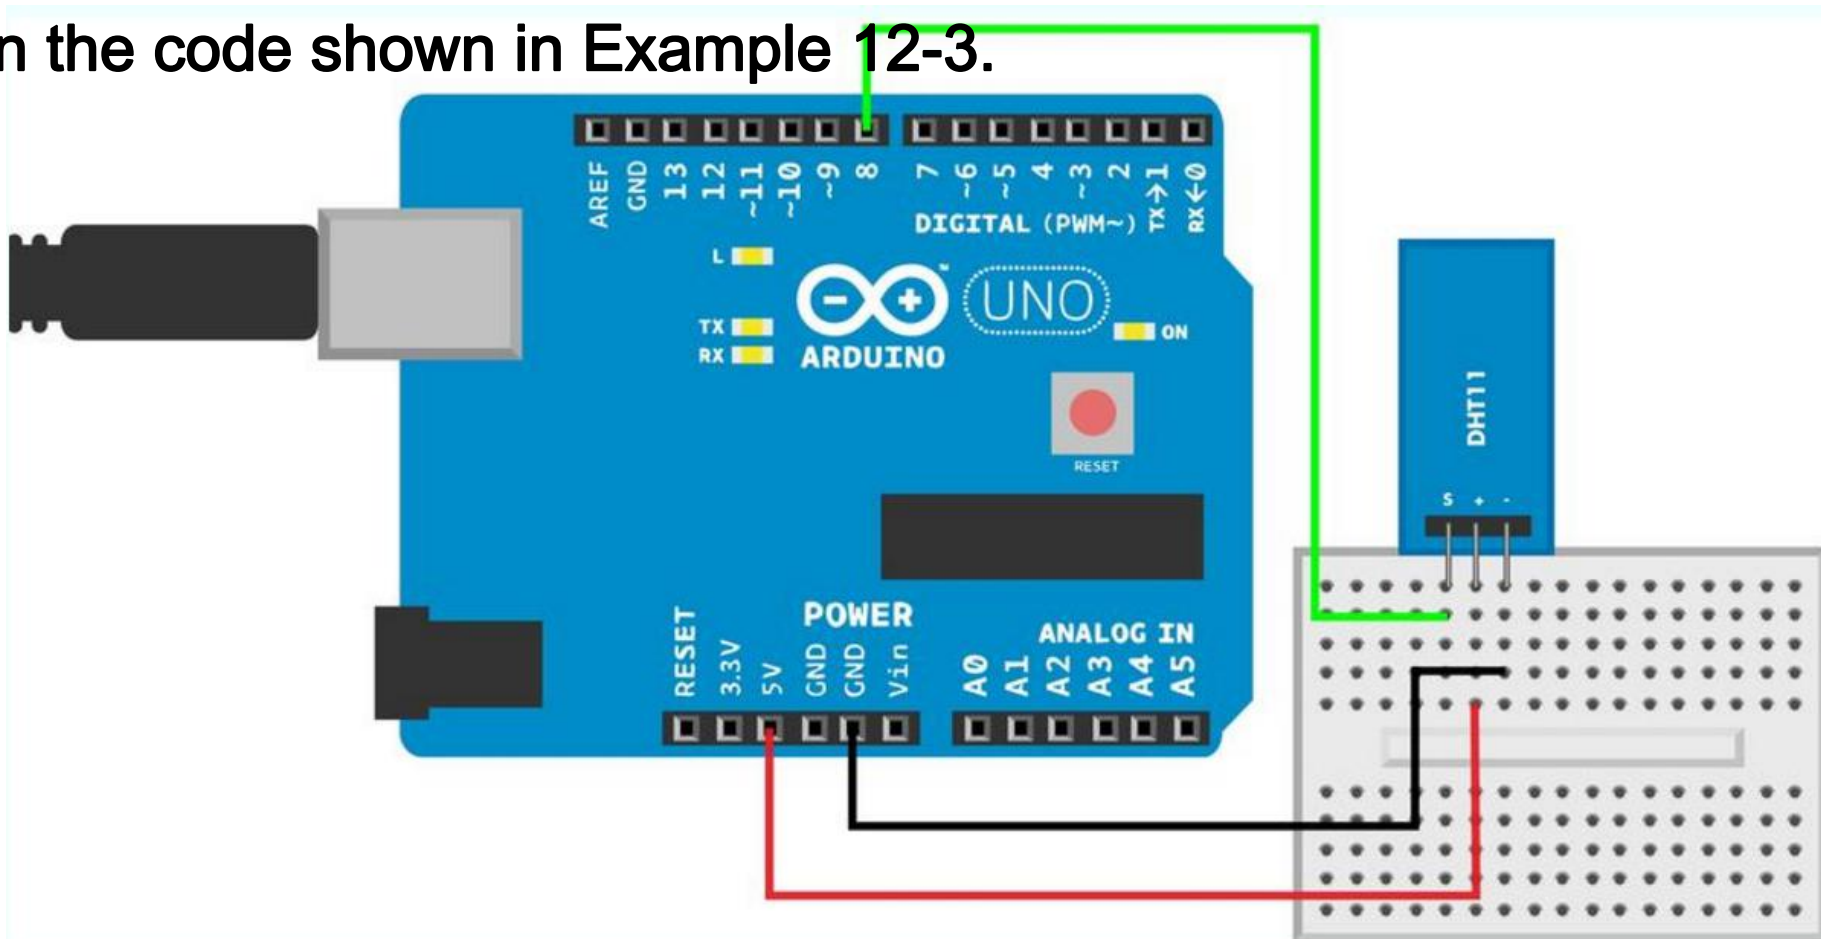

Figure 12-7. DHT11 humidity sensor connected to Arduino
- Figure 12-7 shows the connections for Arduino. Wire them up as shown, and then run the code shown in Example 12-3.